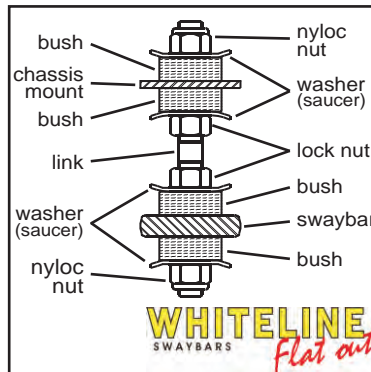

Figure 1.
4. Attach new chassis 'L' brackets to the links, and loosely connect to the swaybar. Refer to figure 1 and photo 2.